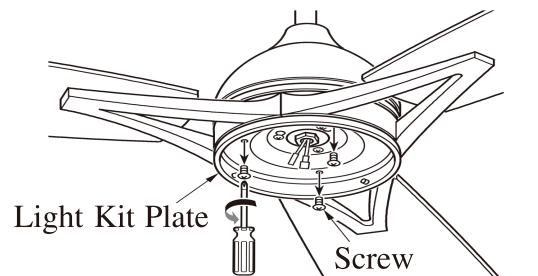

FIG.19
3. Remove 1 of 3 screws on light kit plate,and loosen the other 2 screws.(See fig.19)